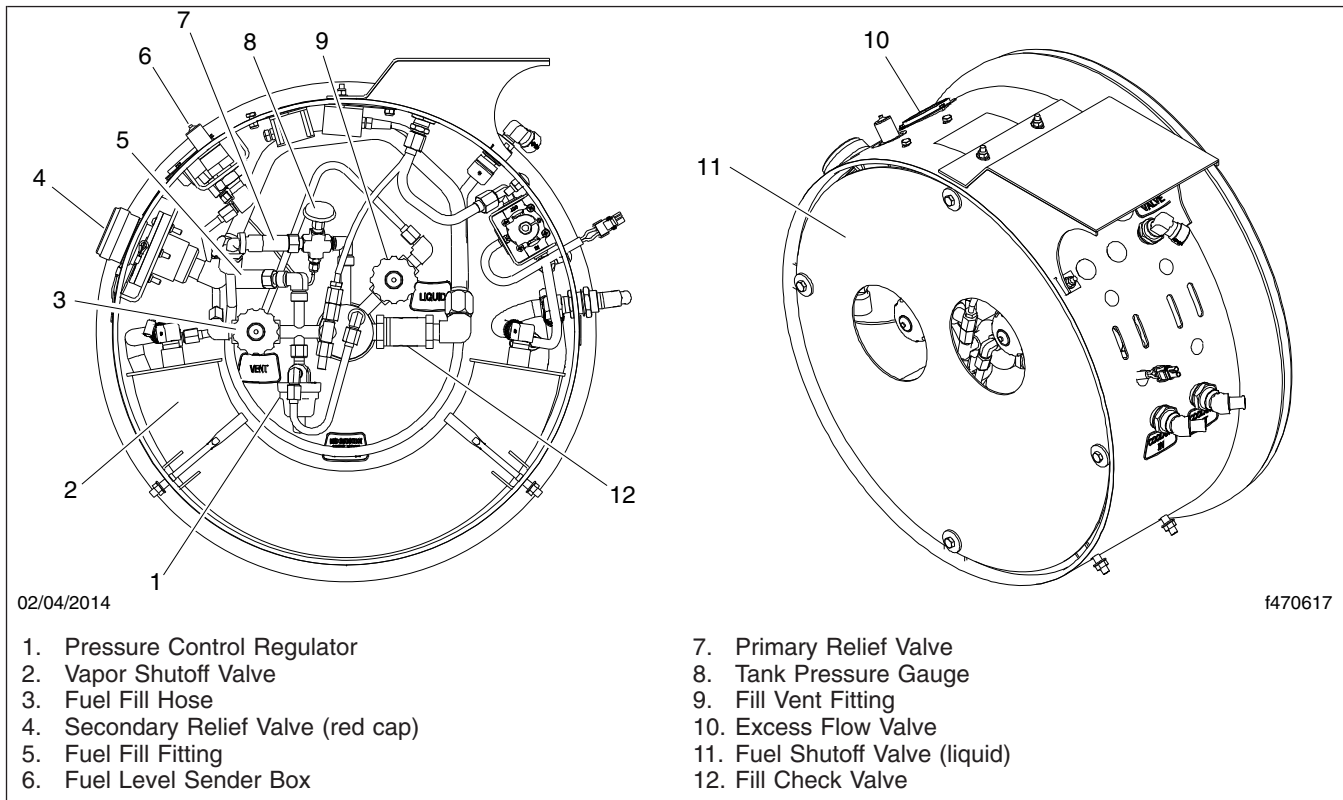

Fig. 6, LNG Tank Plumbing Components
See Fig. 6 for fuel tank and shroud component locations.
See Fig. 6 for plumbing component locations.
2. Inspect the fuel level sender box (Fig. 6) for signs of leaks or damage. Ensure that the retainer clips are installed on the mounting ears.
See **Fig. 6** for plumbing component locations.
2. Check the fuel tank pressure gauge (**Fig. 6**, Item 8) to ensure that pressure is within the normal range of 120 to 150 psi (827 to 1034 kPa).